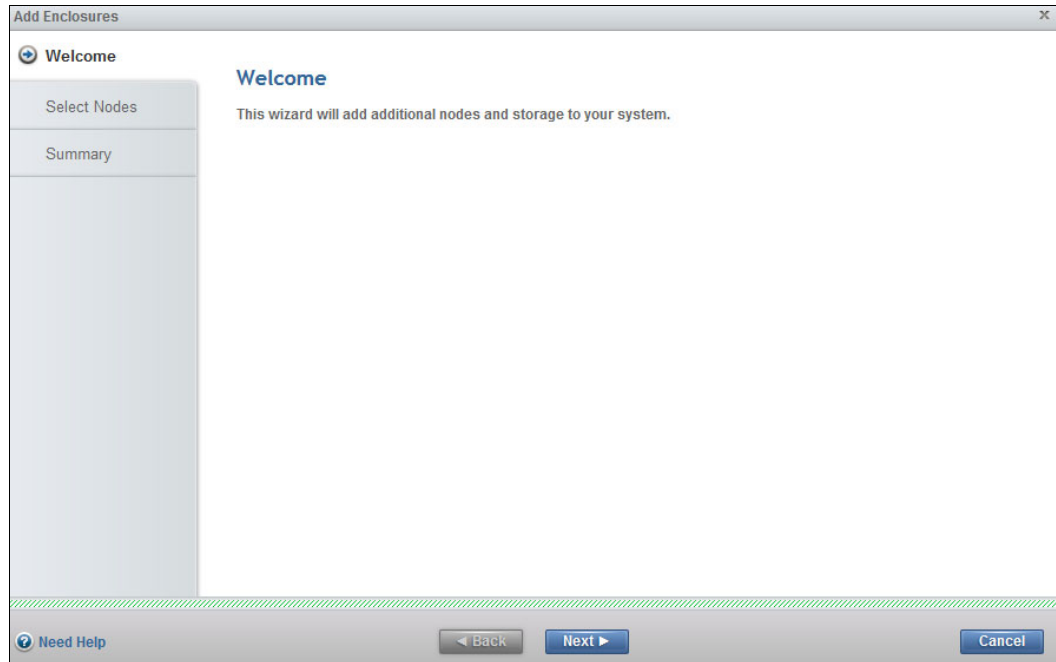

Figure 5-19 Add enclosure wizard
2. Click the empty IO group or the empty storage enclosure to open the Welcome page of the Add Enclosures wizard (Figure 5-19) to configure control and storage enclosure.